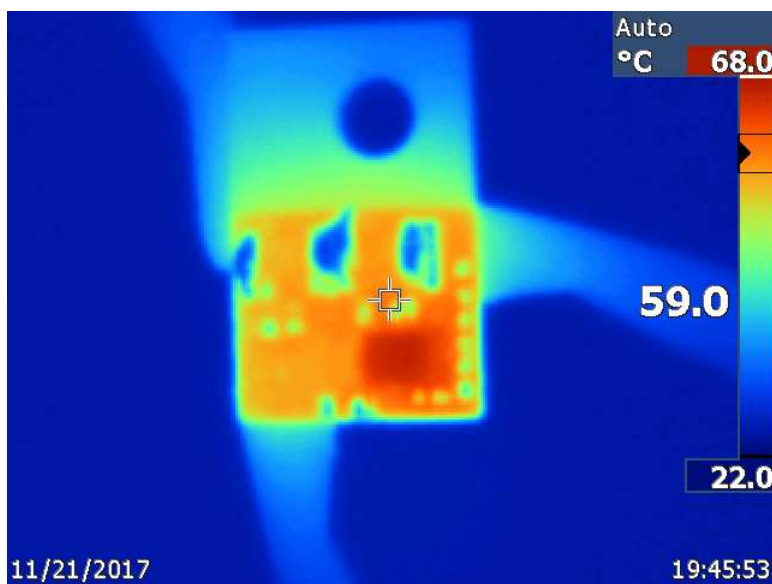

Figure 16. Thermal Image at 24 V_{IN}, 5 V_{OUT}, 300 mA I_{OUT}
The infrared (IR) thermal image in Figure 16 was taken at the steady state with 24 V_{IN} and the LMR36006 output at a load of 300 mA (no airflow). The ambient temperature is approximately 22°C. The maximum IC temperature is 68°C.